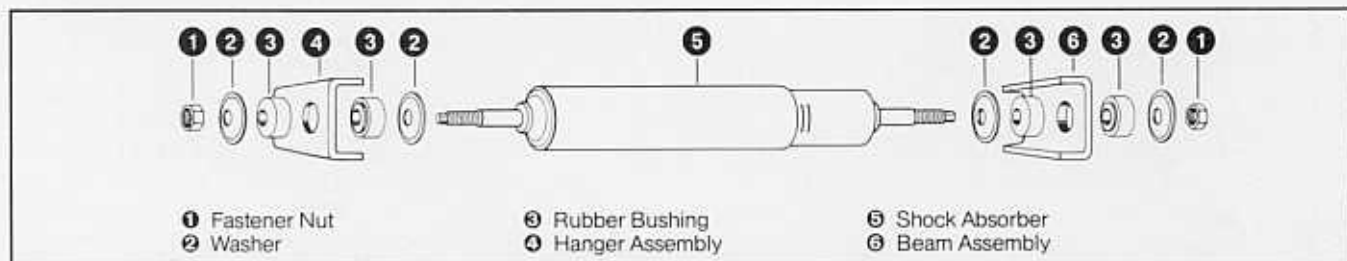

Figure 3 – Shock Absorber and Shock Fasteners
There are four (4) shock absorbers utilized on the MOR/ryde T/A Suspension system. These shock absorbers are made by Monroe with special valving and stroke length specifically designed for the MOR/ryde suspension and are **not** available through any Monroe aftermarket dealers. Consult MOR/ryde, Inc. direct for replacements. Refer to Figure 3.
3. Install new bushings on new shock absorber per Figure 3.